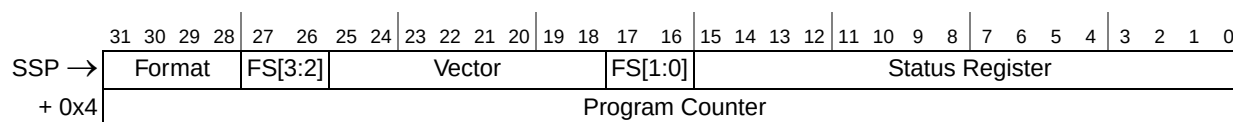

Figure 2-16. Exception Stack Frame Form
3. The processor saves the current context by creating an exception stack frame on the system stack. The exception stack frame is created at a 0-modulo-4 address on top of the system stack pointed to by the supervisor stack pointer (SSP). As shown in Figure 2-16, the processor uses a simplified fixed-length stack frame for all exceptions. The exception type determines whether the program counter placed in the exception stack frame defines the location of the faulting instruction (fault) or the address of the next instruction to be executed (next).
Figure 2-16 shows exception stack frame. The first longword contains the 16-bit format/vector word (F/V) and the 16-bit status register, and the second longword contains the 32-bit program counter address.